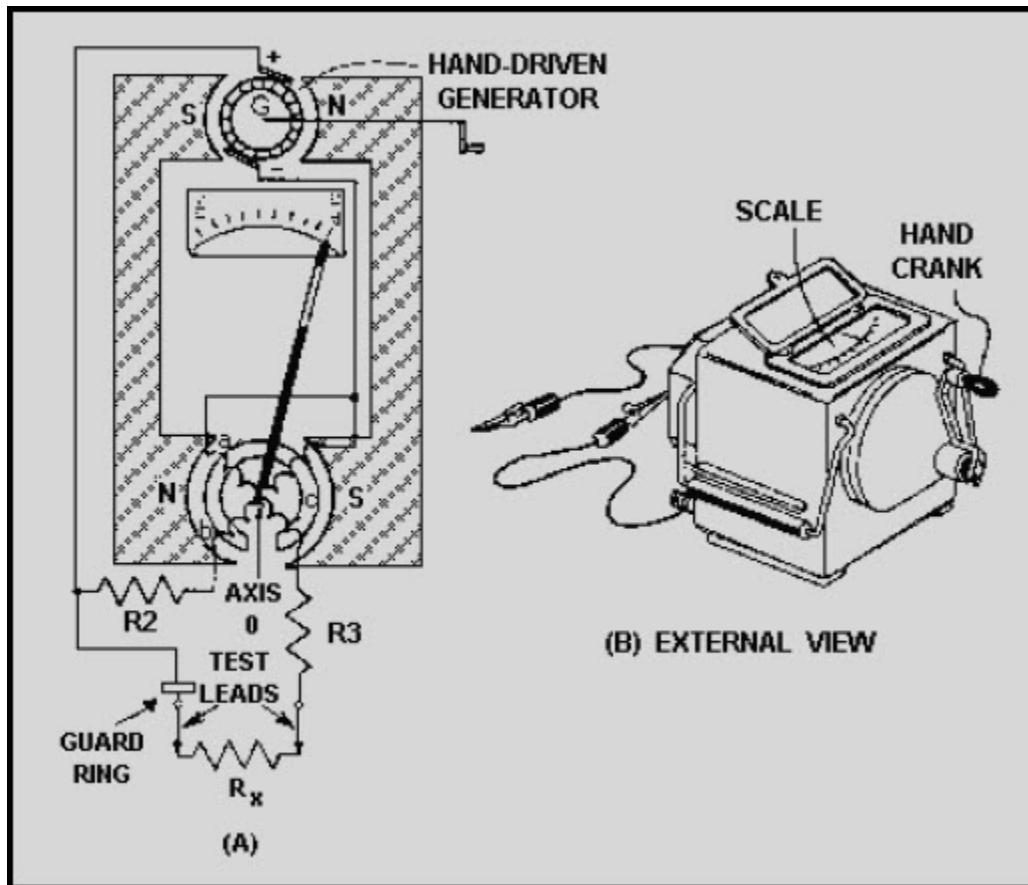

Figure 3-15 Megger internal circuit and external view
An ordinary ohmmeter cannot be used for measuring multimillion ohm values of resistances, such as those in conductor insulation. To test for such insulation breakdown, you need to use a much higher potential than that supplied by the battery of an ohmmeter. This potential is placed between the conductor and the outside of the insulation. A megger (megohmmeter) is used for these tests. The megger, shown in figure 3-15, is a portable instrument consisting of two main elements: (1) a hand-driven dc generator, and (2) the instrument portion, which indicates the value of the resistance you are measuring. The instrument portion is of the opposed-coil type, as shown in view A. Coils **a** and **b** are mounted on movable member **c**. A fixed angular relationship exists between coils, and they are free to turn as a unit in a magnetic field. Coil **b** tends to move the pointer counterclockwise, and coil **a** tends to move it clockwise.
The guard ring, shown in view A of figure 3-15, shunts any leakage currents to the negative side of the generator. This prevents such current from flowing through coil **a** and affecting the meter reading.
If the test leads are open, no current will flow in coil **a**. However, current will flow internally through coil **b** and deflect the pointer to infinity. This reading indicates a resistance too large to measure. When a resistance, such as R_x, is connected between the test leads, current also flows in coil **a**; the pointer tends to move clockwise. At the same time, coil **b** still tends to move the pointer counterclockwise. Therefore, the moving element, composed of both coils and the pointer, comes to rest at a position in which the two forces are balanced. This position depends upon the value of R_x, which controls the amount of the current in coil **a**. Because changes in voltage affect both coils in the same proportion, the position of the moving element is independent of the voltage. If you short the test leads together, the pointer will come to rest at zero because the current in coil **a** is relatively large. Since R₃ limits the current, the instrument will not be damaged under these circumstances. The external appearance of one type of megger is shown in view B of figure 3-15.